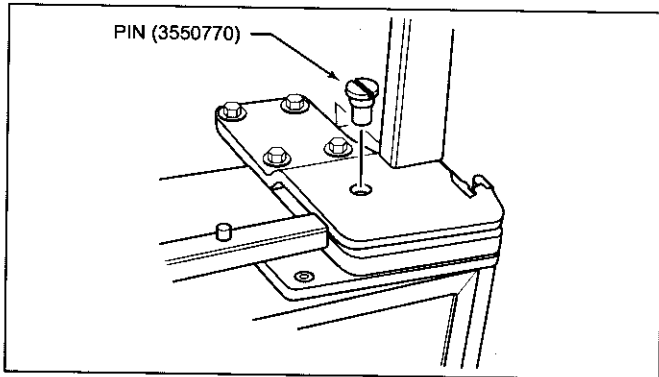

Figure 2-14. 90° Stop Pin (611-3, 650-3)
- b. With door closed, insert door stop pin down into threaded hole in top cabinet hinge and tighten (See Figure 2-14). Then, reinstall unit grille.